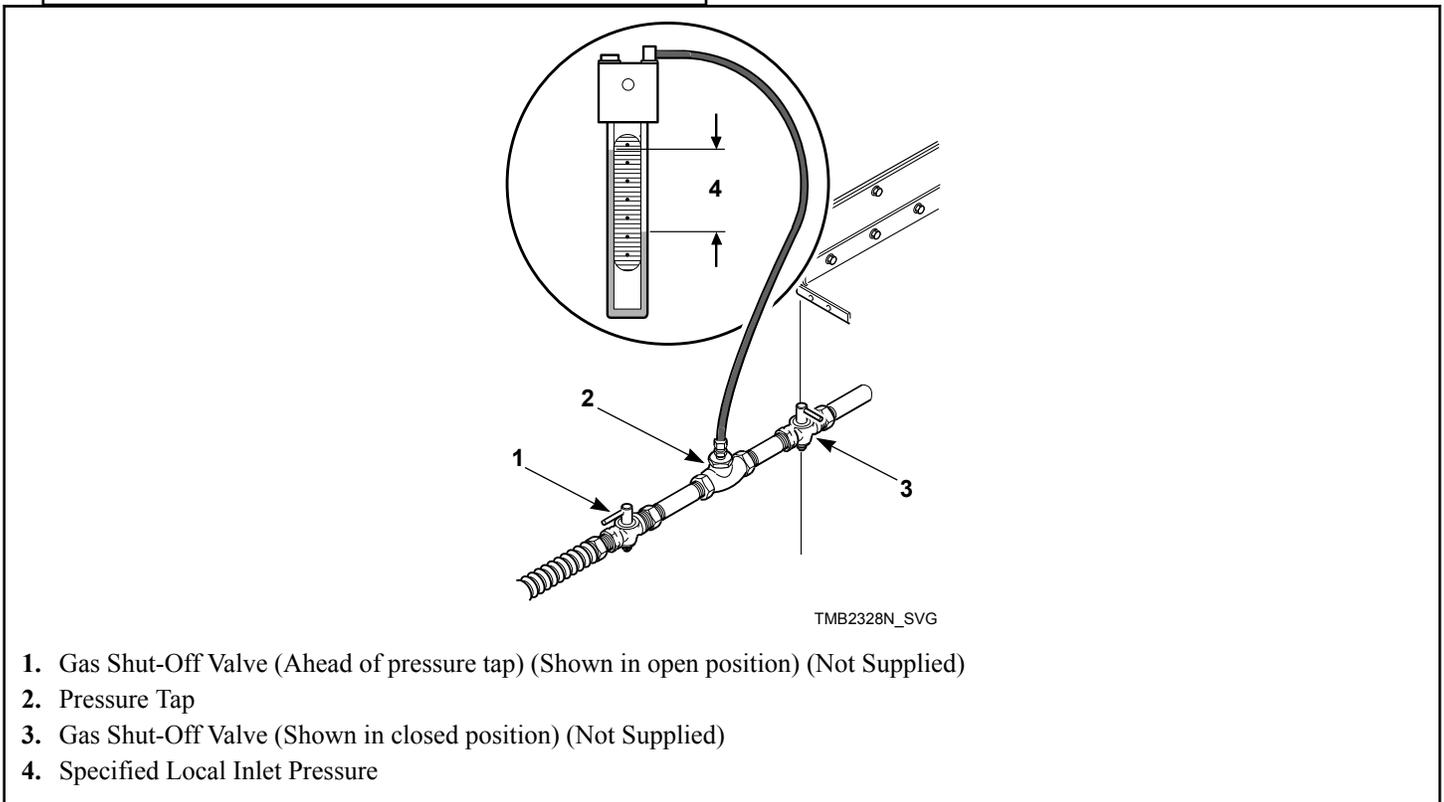

Figure 19
1. Disconnect electrical power from tumble dryer. Close gas shut-off valve to tumble dryer. Refer to *Figure 19*.